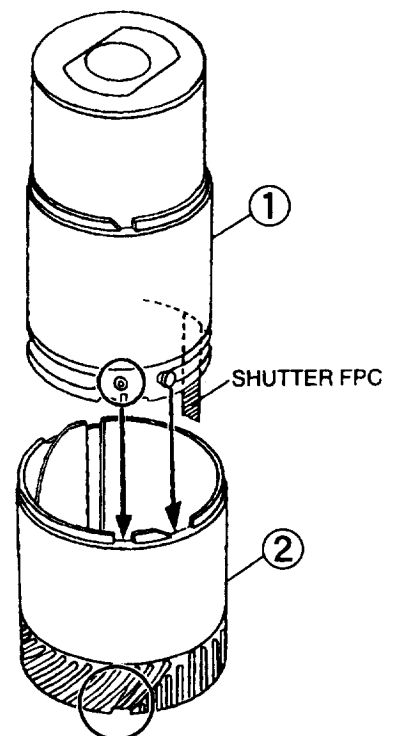

Fig25
(15) Set the ZOOM CAM UNIT (①) into the HELLICOID FRAME (②) as shown in Fig. 25. (Pressing)